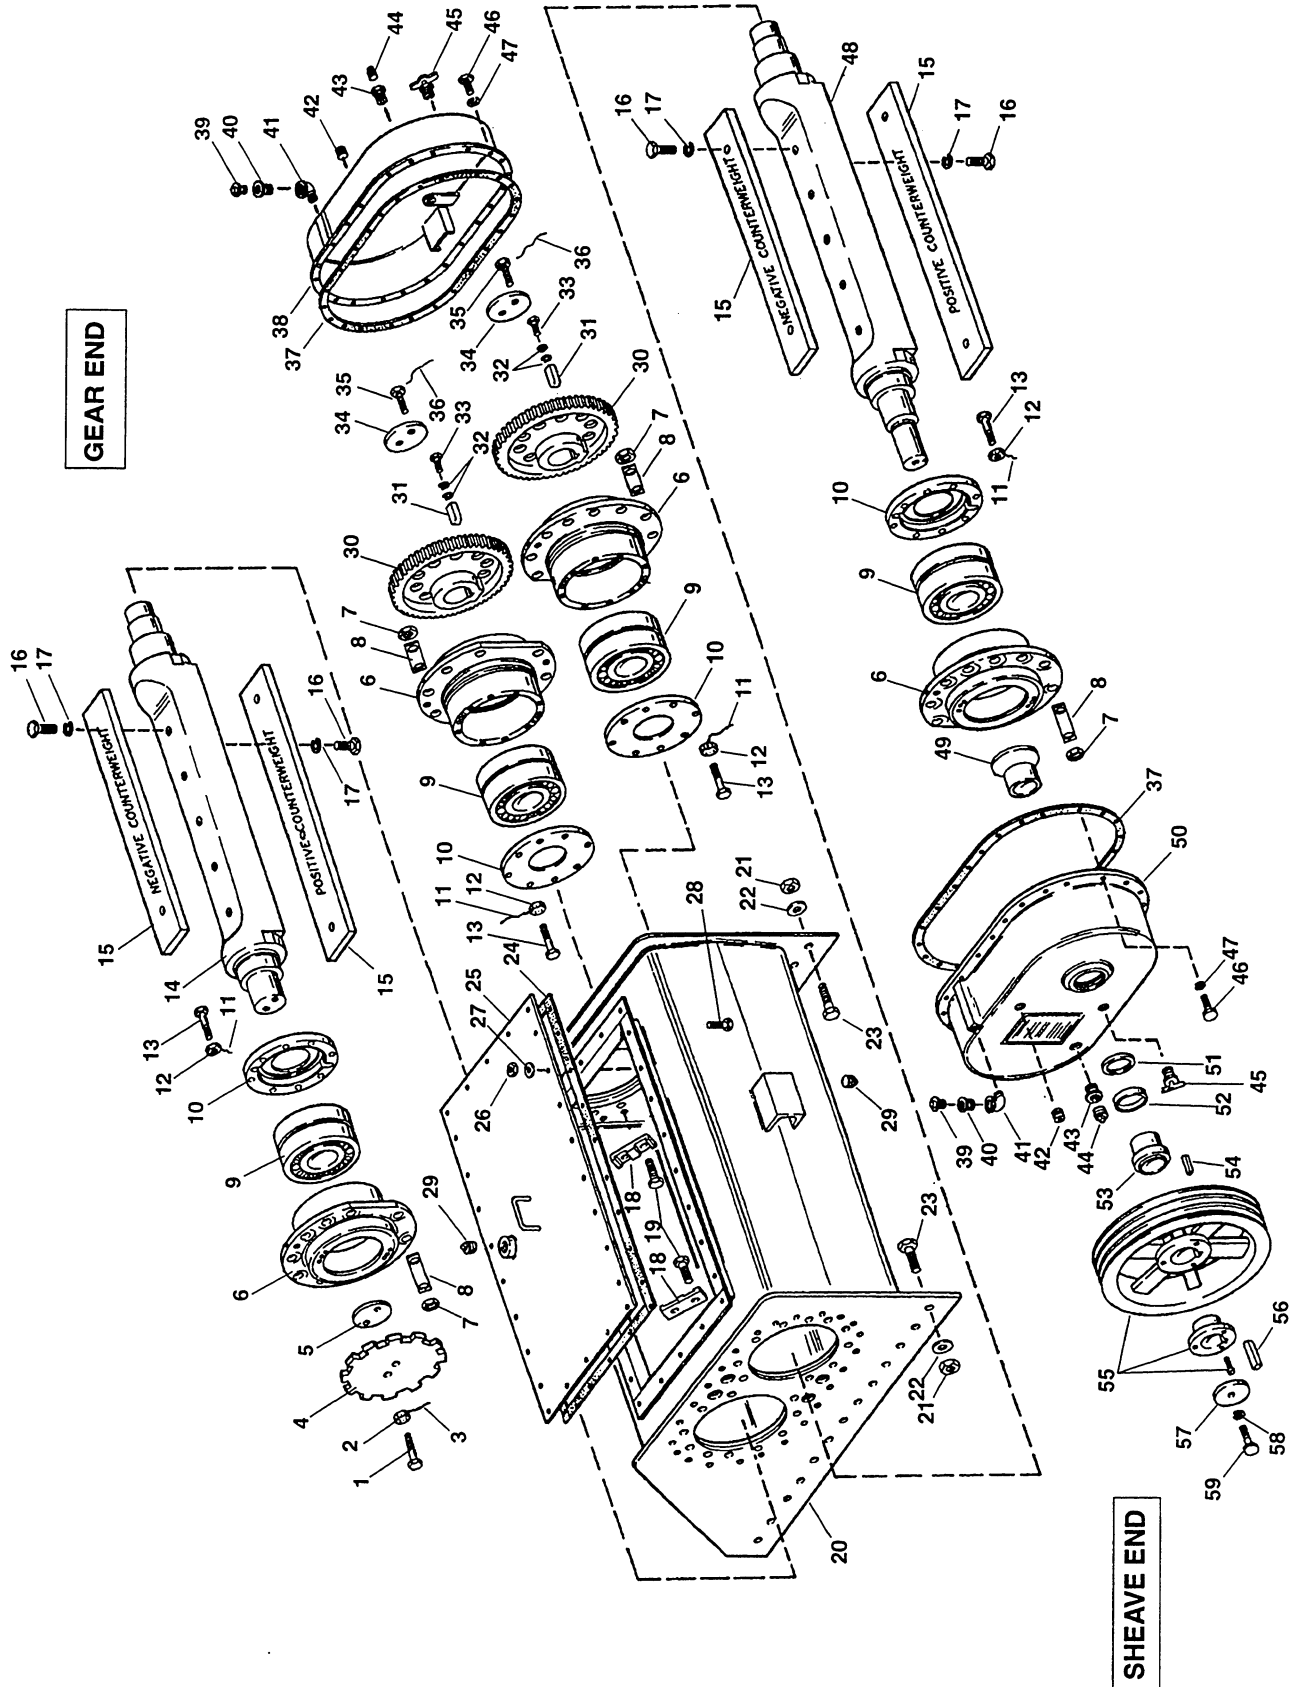

Figure 4-2. Type HF Vibrating Unit - Exploded View
Note: Part numbers in parenthesis (. . .) refer to Figure 4-2. Use this illustration to identify parts during disassembly of the vibrating unit.
LEGEND FOR FIGURE 4-2
1. Subassemble the four bearing housings (6, Figure 4-2) as follows:
B. Clean the bores of bearing housings (6) thoroughly. Be sure there are no high points on the bearing seats, and that the bearing bore is within the tolerances listed in Table 4-1.